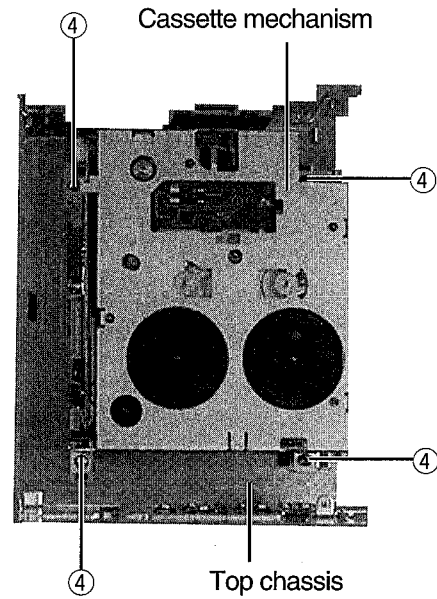

Fig. 8
■ Removing the Cassette Mechanism ( See Fig. 8 )
5. Remove the four screws ④ retaining the cassette mechanism.